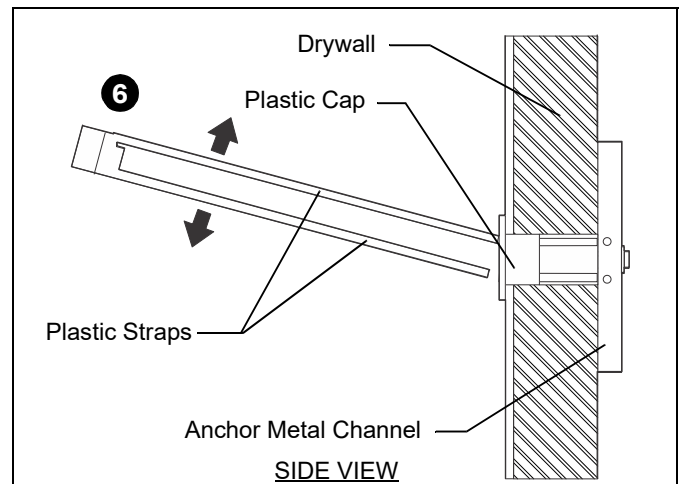

Figure 12
6. Snap off plastic straps on anchor at wall by pushing side to side, snapping off straps level with flange of plastic cap. (See Figure 12)